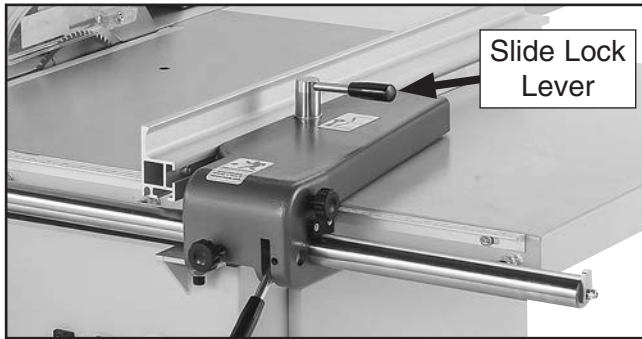

Figure 106. Location of slide lock lever.
3. Loosen slide lock lever shown in **Figure 106**.